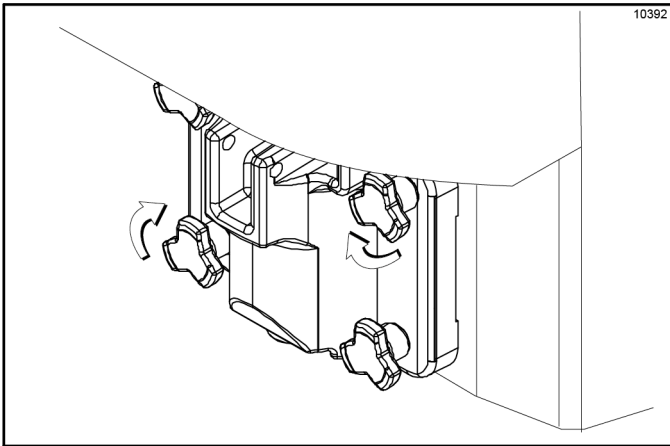

Figure 6-24
14. Insert the baffle rod through the beater in the freezing cylinder. With the door seated on the freezer studs, install the handscrews. Tighten them equally in a crisscross pattern to ensure the door is secured. (See Figure 6-24.)